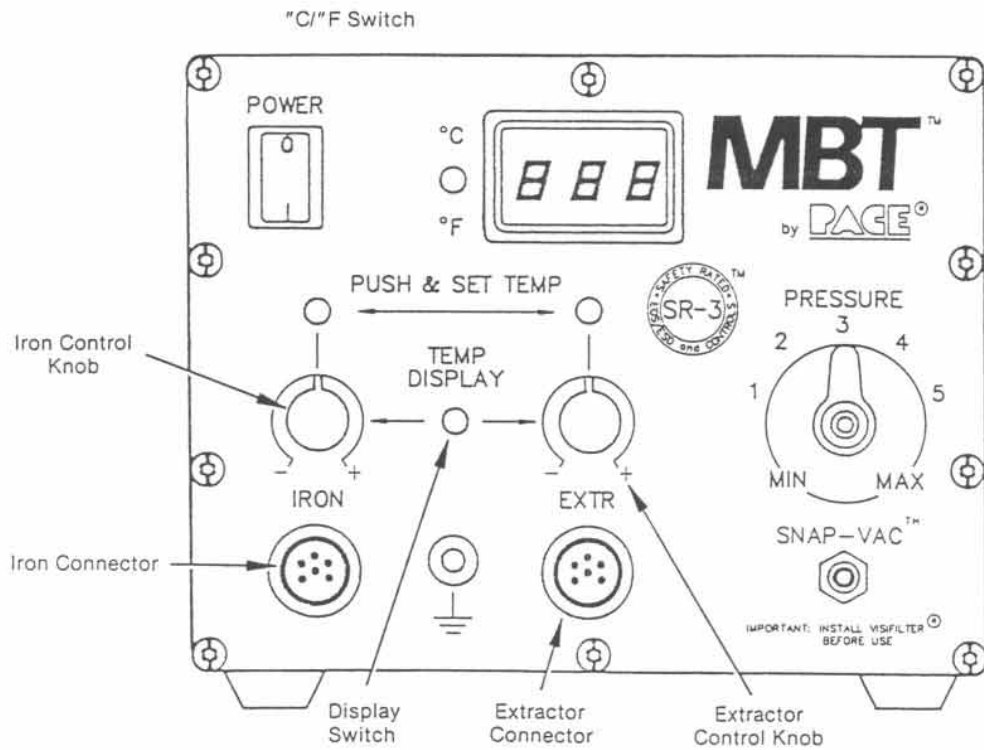

FIGURE 18.
2. Turn the iron and extractor control knobs completely counter clockwise. Position the display switch to the iron channel (refer to figure 18).
4. Plug the “Gain” calibration board, *marked 57 in red ink*, (276.07 Ω resistor) into the “IRON” receptacle on the front panel (refer to figure 18).
6. Plug the “Gain” calibration board, *marked 57 in red ink*, (276.07 Ω resistor) into the “EXTR” receptacle on the front panel (refer to figure 18).
8. Plug the “Gain” calibration board, *marked 57 in red ink*, (276.07 Ω resistor) into the “IRON” receptacle on the front panel (refer to figure 18).
9. Position $^{\circ}\text{C}/^{\circ}\text{F}$ switch to $^{\circ}\text{C}$ (refer to figure 18).
11. Plug the “Offset” calibration board, *marked 58 in black ink*, (218.72 Ω resistor) into the “IRON” receptacle on the front panel (refer to figure 18).
13. Plug the “Gain” calibration board, *marked 57 in red ink*, (276.07 Ω resistor) into the “IRON” receptacle on the front panel (refer to figure 18).
17. Plug the "Offset" calibration board, *marked 58 in black ink*, (218.72 Ω resistor) into the "IRON" receptacle on the front panel (refer to figure 18).
19. Plug the "Gain" calibration board, *marked 57 in red*, (276.07 Ω resistor) into the "IRON" receptacle on the front panel (refer to figure 18).
3. Turn the iron and extractor control pots completely counter clockwise (refer to figure 18).
4. Plug the "Gain" calibration board *marked "57" in red ink dot* (276.07 Ω resistor), into the "IRON" receptacle on the front panel (refer to figure 18).
9. Plug the "Gain" calibration board *marked "57" in red ink* (276.07 Ω resistor) into the "EXTR" receptacle on the front panel (refer to figure 18).